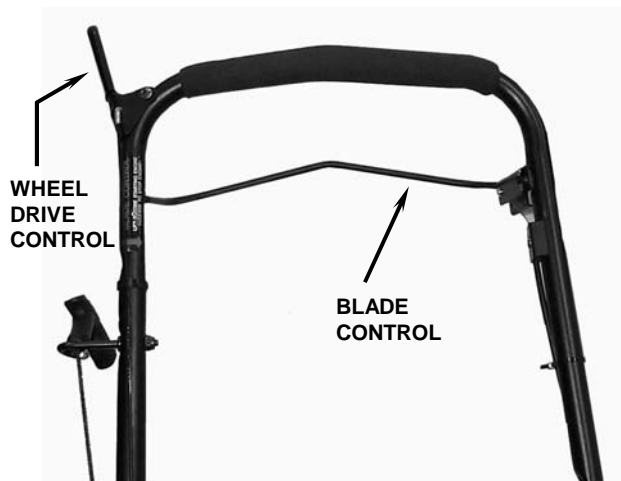

FIGURE 2.1
2.1.2. Check blade control and wheel drive control to insure they work freely. See Figure 2.1.
- 2.** Pull blade control against handle. See Figure 2.1.
3. Move wheel drive control against handle to engage wheel drive and propel mower forward. See Figure 2.1.